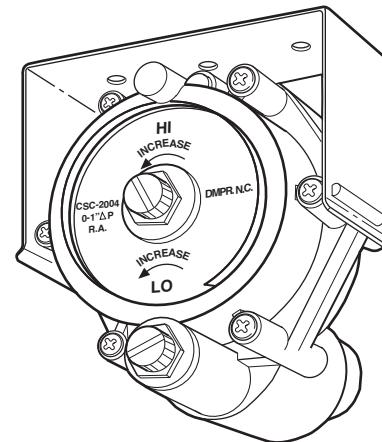

Fig. 10 — Pneumatic Volume Controller (Normally Closed) for 35EP Unit (Grey Color)
- b. Adjust the maximum volume control knob (marked "HI" and located in the center of the controller) shown in Fig. 10 to achieve the required minimum flow.